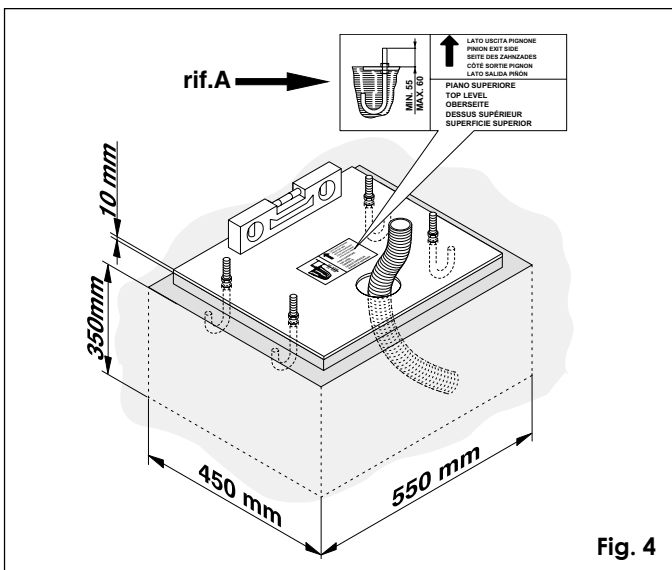

Fig. 4
- 1) The base plate must be positioned as shown in fig. 4.
- 2) Assemble the foundation plate as shown in A, fig. 4.
- 3) Prepare a foundation plinth as shown in fig. 4 and install the base plate providing one or more conduits for electrical cables. Use a level to check that the plate is perfectly horizontal and wait for the cement to set.